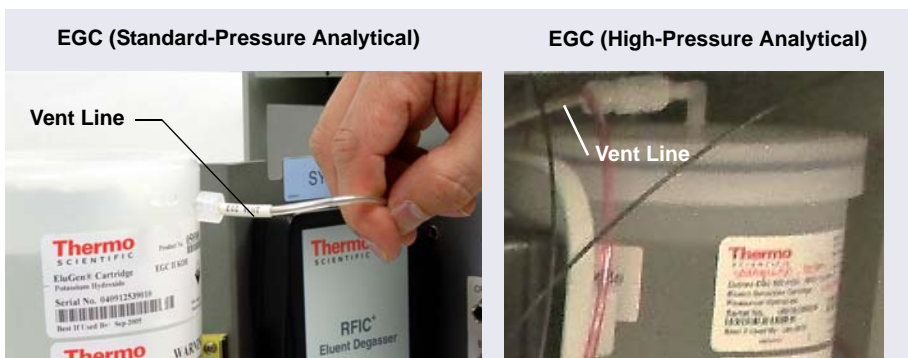

Figure 4-27. Dionex EGC Vent Opening
12. Pull the line labeled **EGC VENT** through the opening in the rear wall (above the bulkhead connectors) and connect the line to the luer adapter in the Dionex EGC vent opening (see Figure 4-27).